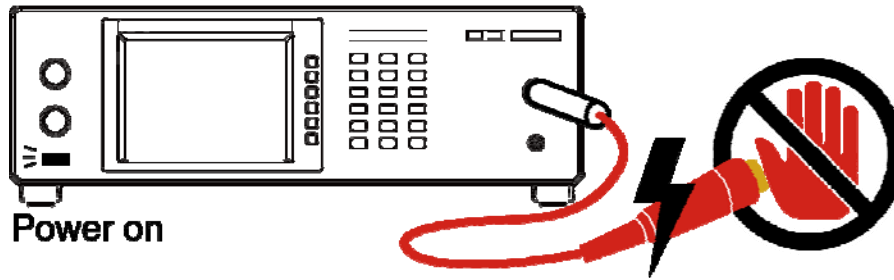

Figure 3-3 Don't touch here when outputs high voltage
- ⚡ CAUTION** : When the main unit is under test status, please don't touch alligator clip on test cable. Because the insulation of plastic layer is not enough, touch it may cause hazard as *Figure 3-3* shown.